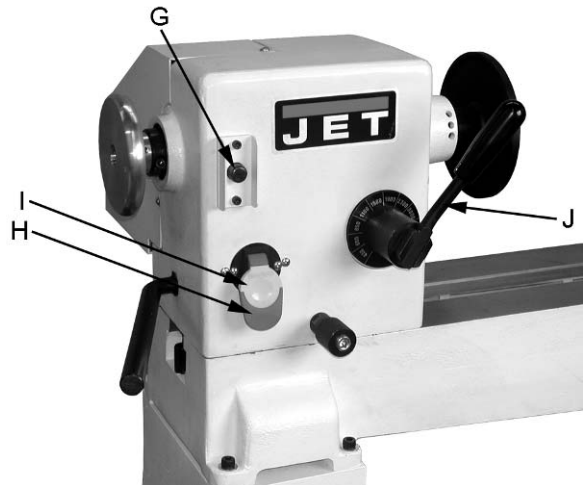

Figure 5
- G. **Headstock Spindle Lock:** (G, Fig. 5)
- H. **Headstock On/Off Switch:** (H, Fig. 5)
- I. **Headstock On/Off Switch Key:** (I, Fig. 5)
- J. **Headstock Speed Selector:** (J, Fig. 5)